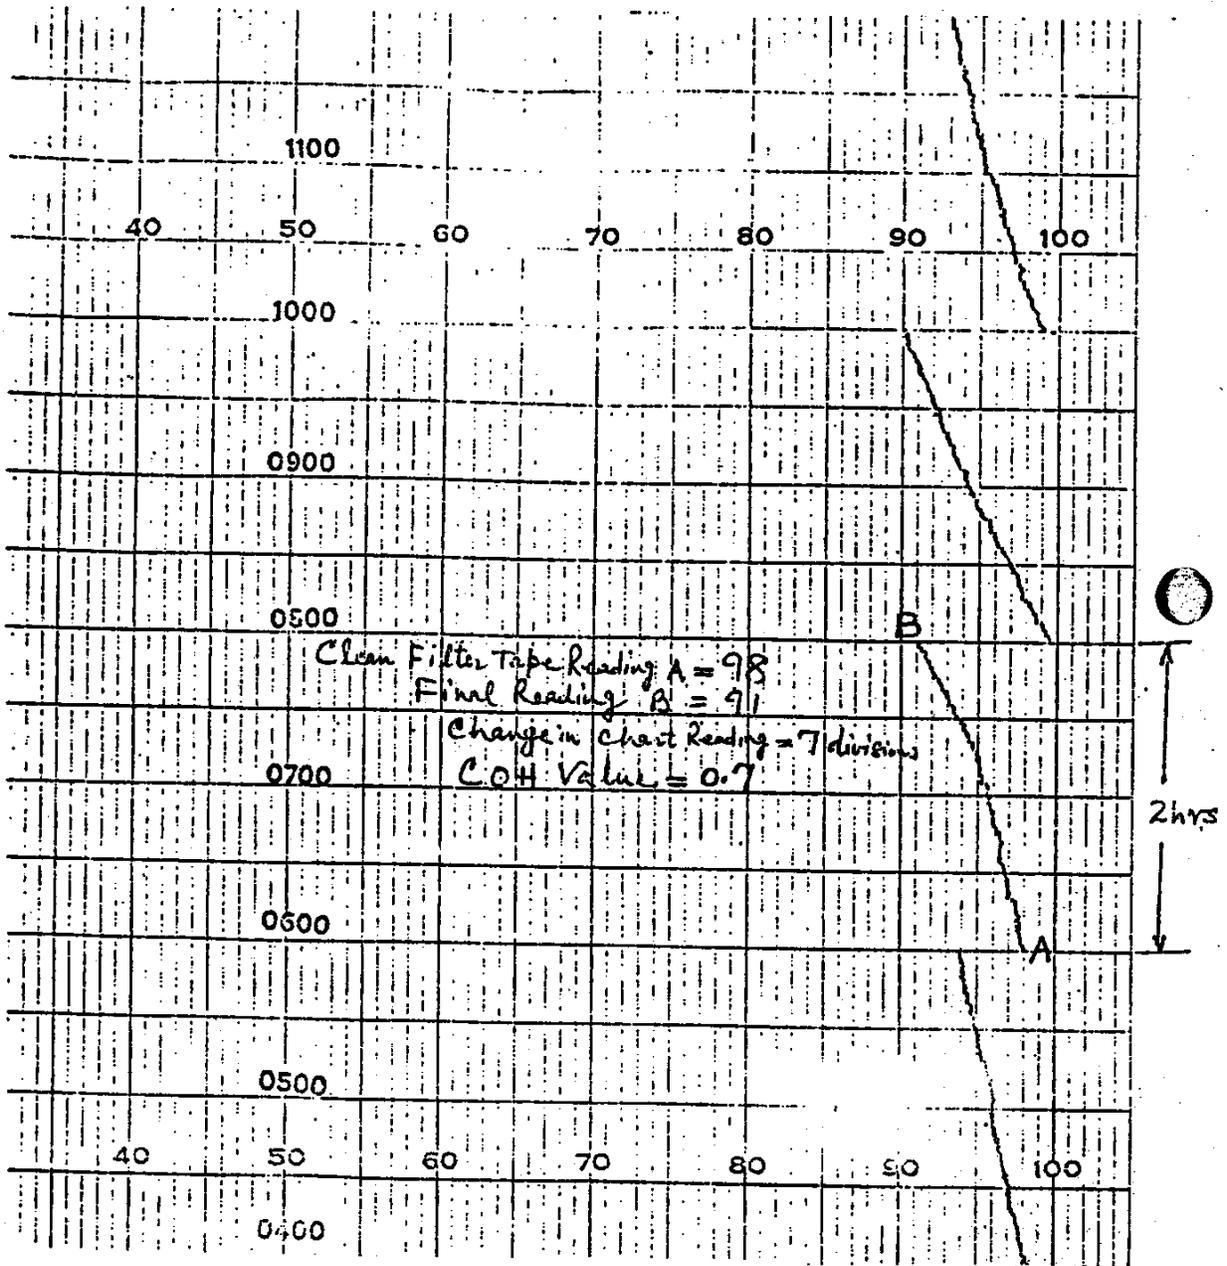

Figure K.1.0.4
NOTE: A flow rate of 6.25 liters per minute provides a one to one relationship between COHs and T from 100% to 78% of chart, thus requiring reference to Table K.1.0.1 only for change in strip chart readings greater than 22%. For example, if the clean filter tape reading was set to 95% of chart and the final chart reading at the end of sampling interval is 85% of chart, the change in chart reading of 10.0 (COH x 10) corresponds to a COH value of 1.0 in the table. Figure K.1.0.4 shows typical chart traces.
- i. Contact the Instrumentation Laboratory at (916) 323-5926 (ATSS 473-5926) to check out the telemetry control function.
- K.1.1.5 SAMPLING FREQUENCY - The AISIs are run continuously with an even Pacific Standard starting time, and generally on a two hour sampling period. The 2 hour COH values are reported on the Hourly Data Summary Report (Form TSD-1) in the spaces for odd numbered hours (see Figure K.1.0.4). For special projects, the sampling period may be increased or decreased.